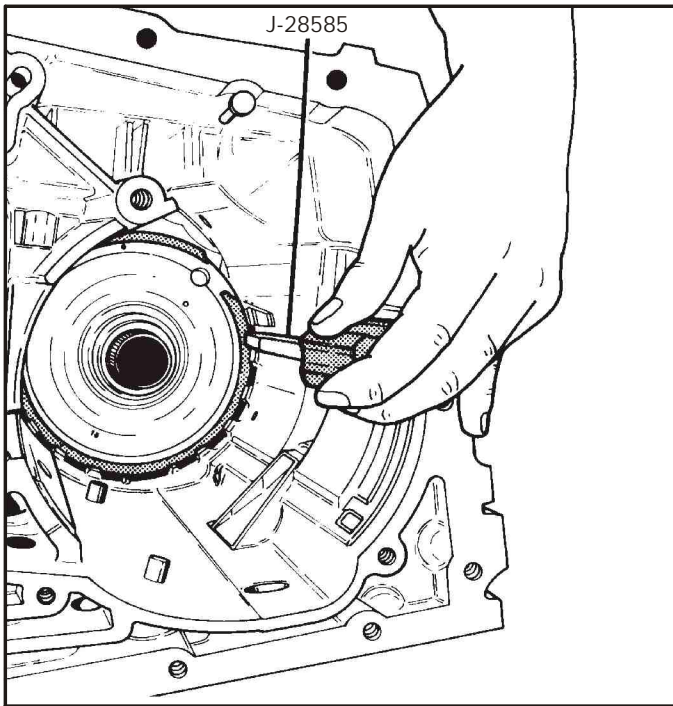

Figure 147
4. Install the final drive ring gear snap ring into the case groove, with the open end of the snap ring to the opening in case (See Figure 147).